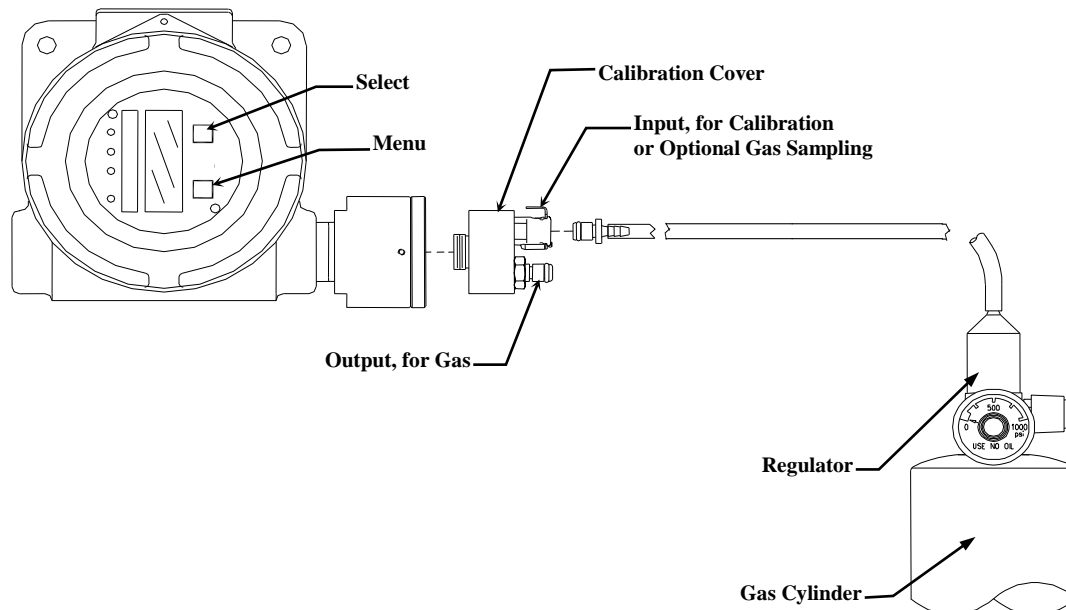

Figure 4: Calibration Adapter EX-5120 Sensor/Transmitter
3. Attach the associated calibration gas cylinder to the regulator and calibration cover. See to **Figure 4**.